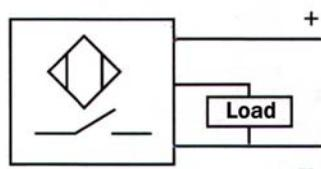

Fig.11.3 Data sheet for an inductive sensor.
- Study the data sheet for the inductive sensor. See figure 11.3.